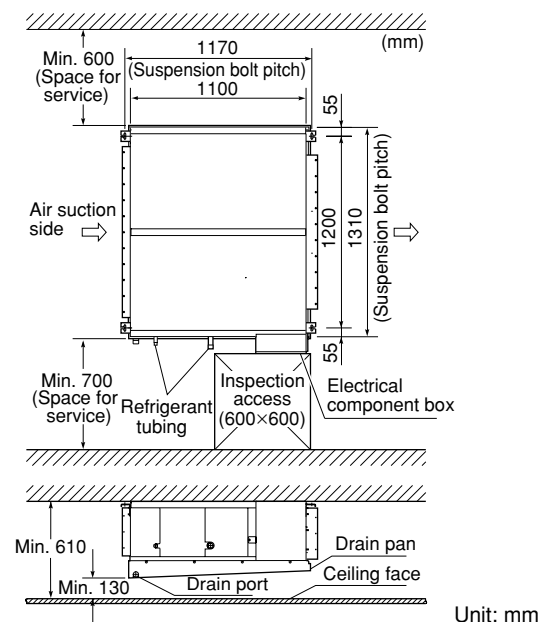

Fig. 3-114a
- The minimum space for installation and service is shown in Fig. 3-114a.